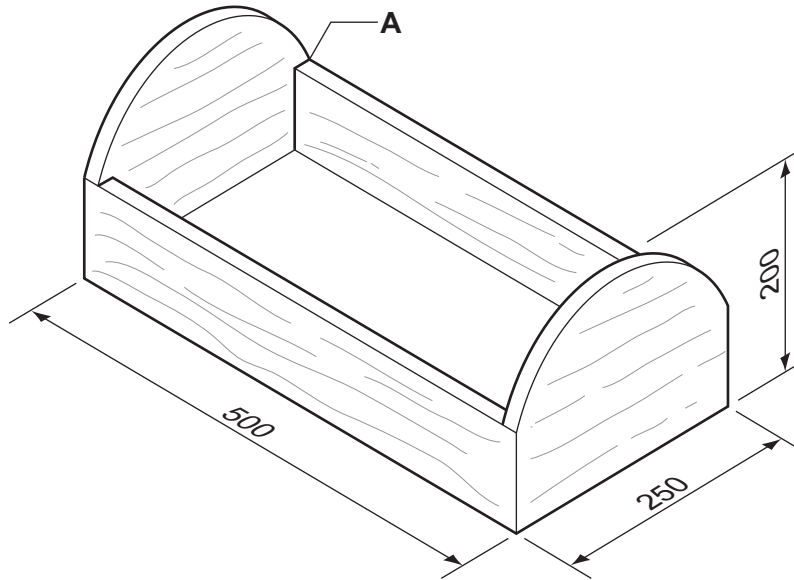

Fig. 8
- 11 Fig. 8 shows an incomplete design for a wooden toolbox made from 15 mm thick softwood.